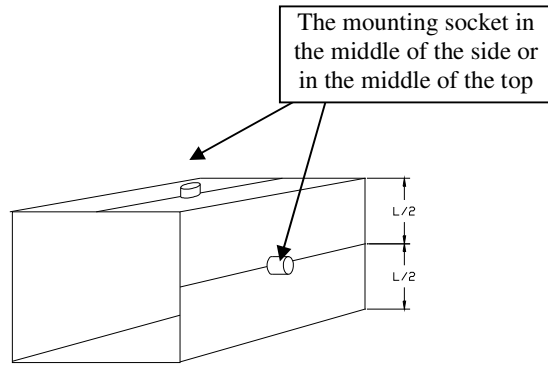

Figure 3b. Square cross-section duct
3. For square cross-section ducts, the unit must be positioned in the middle of the top or in the middle of one of the sides. See figure 3b.